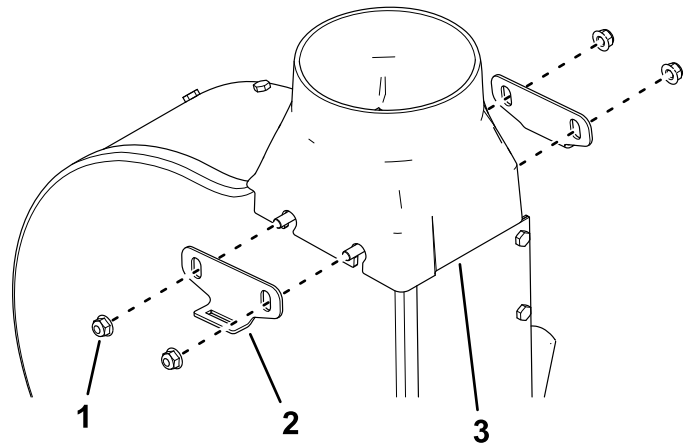

Figure 7
1. Install the new blower transition using 2 plates and 4 nuts (Figure 7).